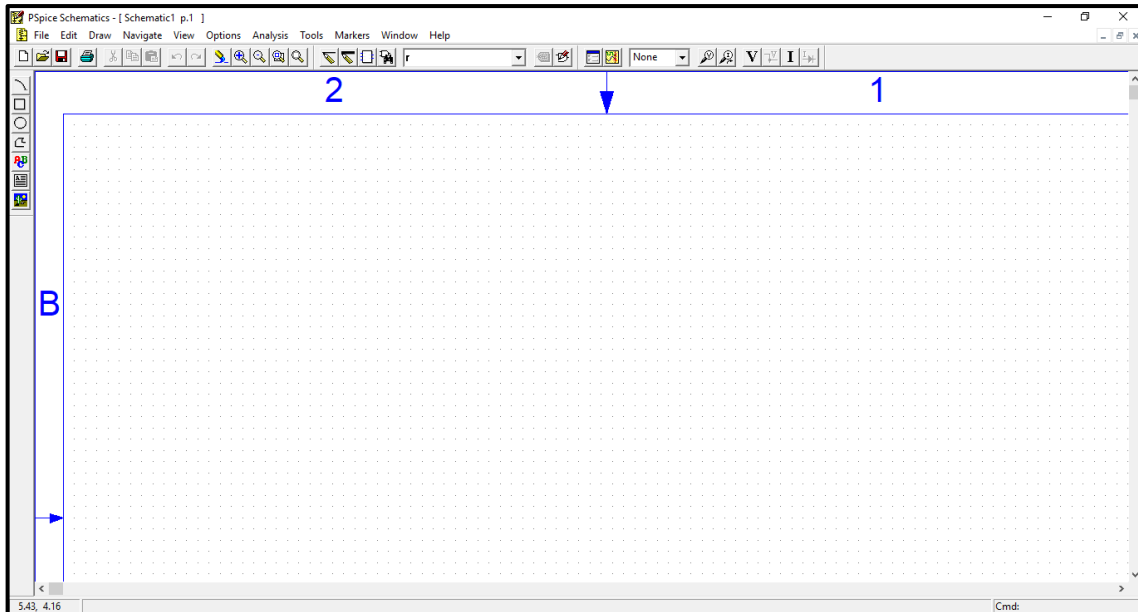

Figure.2
- Click on Schematics icon, then you will see the window shown on figure.2 (next page)